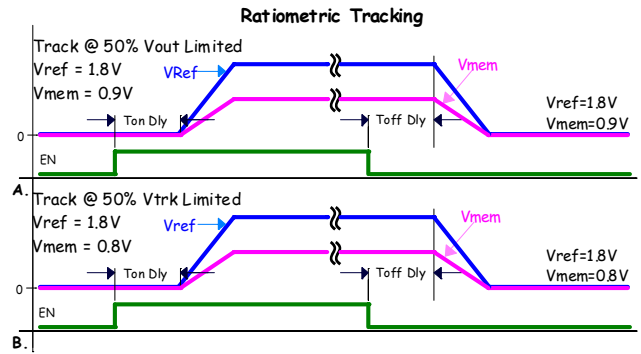

FIGURE 21. RATIO-METRIC TRACKING
- a. Track at 50% VOUT limited. Member rail tracks the reference rail and stops when the member reaches 50% of the target voltage, Figure 21 (A).
- b. Track at 50% VTRK limited. Member rail tracks the reference at the instantaneous voltage value applied to the VTRK pin until the member rail reaches 50% of the reference rail voltage, or if the member is configured to less than 50% of the reference the member will achieve its configured target, Figure 21 (B).
Tracking Configuration Figure 21 (A)
Tracking Configuration Figure 21 (B)